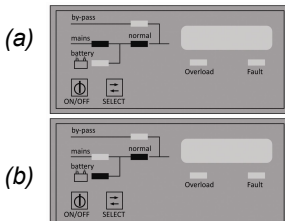
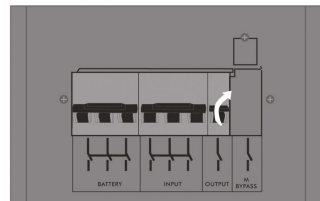

Figure 3.7
Figure 3.8
4. If the UPS started on mains voltage, LEDs will be on as shown in (a), otherwise they will be on as shown in (b) (Figure 3.7). In this case, you can switch on *Output CB* and supply your loads from the UPS (Figure 3.8).